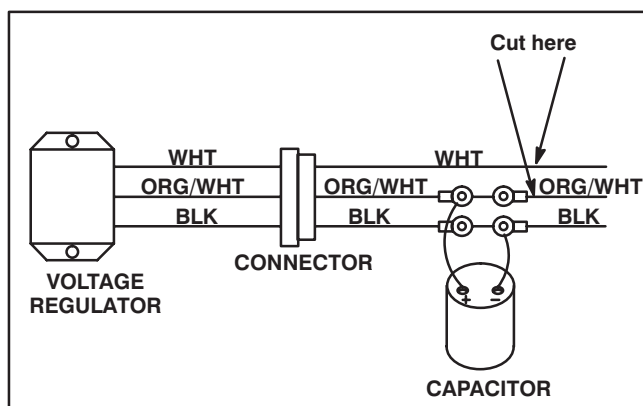

Figure 2
- A. Remove voltage regulator and, if present, capacitor from main wire harness. Component(s) are located underneath cup holder on control panel (Fig. 2).